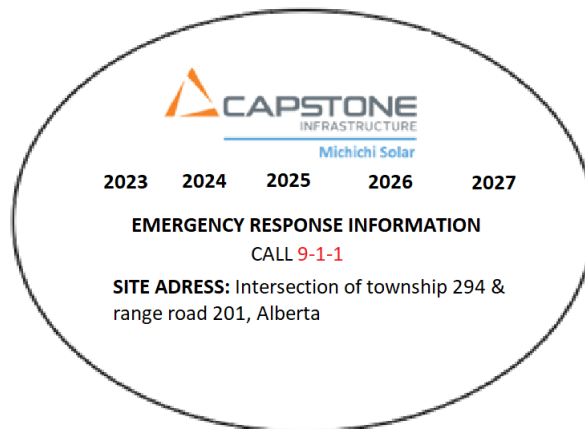

Figure 1. Orientation Sticker Example
- All individuals who participate in the site orientation shall receive an orientation sticker for their hardhat (Example seen in Figure 1). The sticker includes emergency information for contacting 911, including the site address.